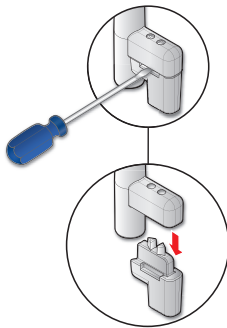

Figure 4. Prying off the Locking Arm Insert
- b. Use a small screwdriver to pry and separate the insert from the locking arm (see figure 4).